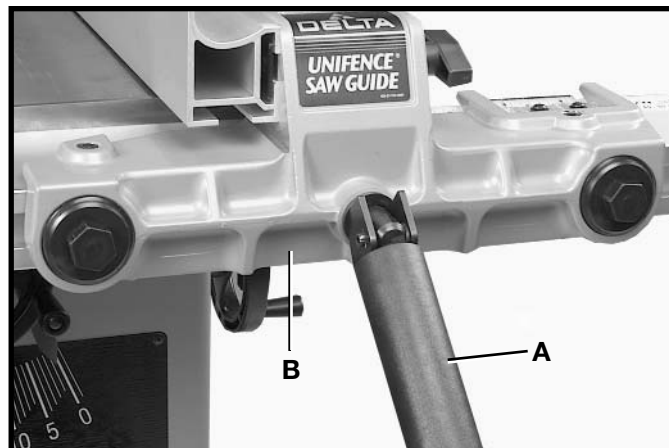
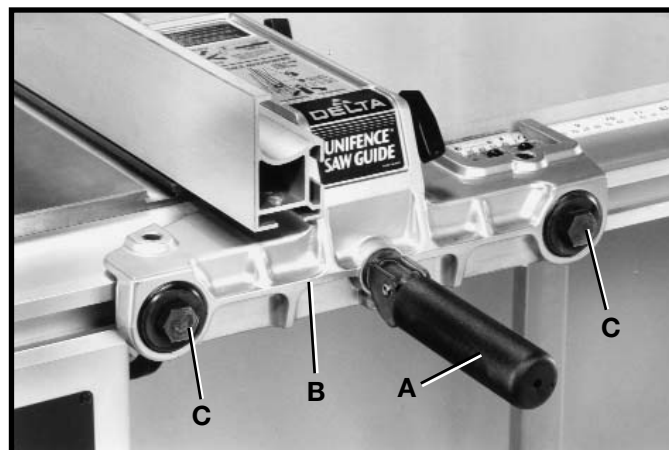

Fig. 117
Fig. 118
When the fence locking handle (A) is pushed to the down position, as shown in Fig. 117, the fence body (B) should be completely clamped to the guide rail. If the fence body (B) is not completely clamped to the guide rail when the handle (A) is in the position shown in Fig. 117, lift up on locking handle (A) Fig. 118, and slightly tighten two adjustment plugs (C) using arbor wrench or 7/8" wrench. Adjustment plugs (C) should be tightened an equal amount. Check to see if the fence body (B) is completely fastened to the rail by pushing down on locking lever (A). Adjust further if necessary.